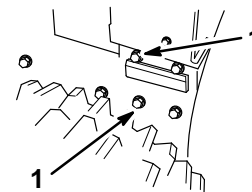

Figure 6
2. Screw (3)
5. Remove and discard the two capscrews securing the idler pulley assembly to the engine frame (Fig. 6).